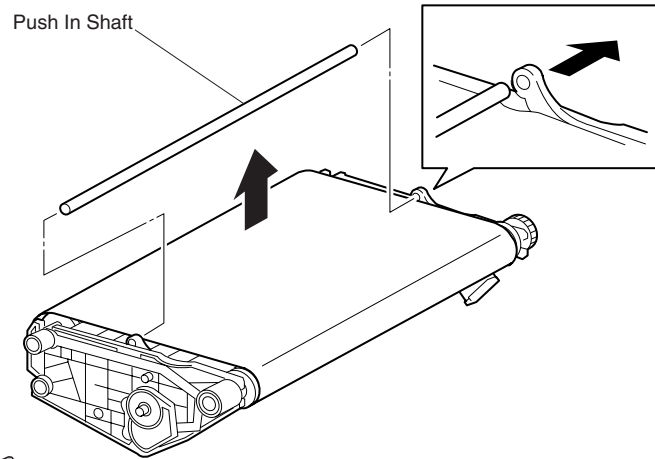

Figure 1
4. Remove the Push In Shaft from the Shaft arms (Figure 1).